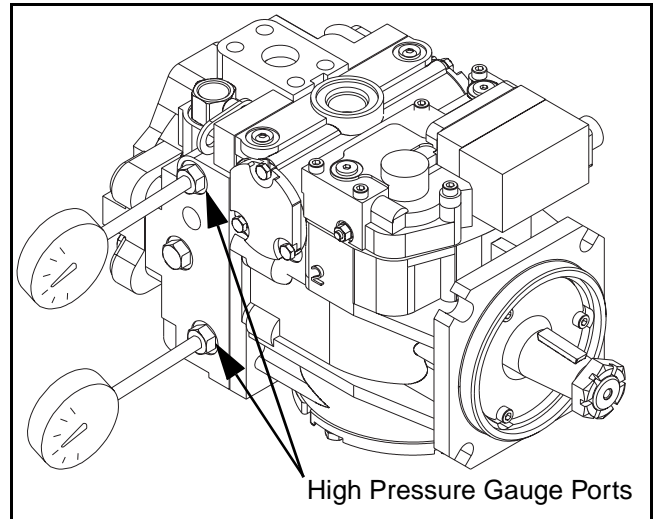

Figure 5 - 2 Install Pressure Gauges
- 2) Install two 10,000 PSI pressure gauges in the high pressure gauge ports. (Figure 5 - 2)